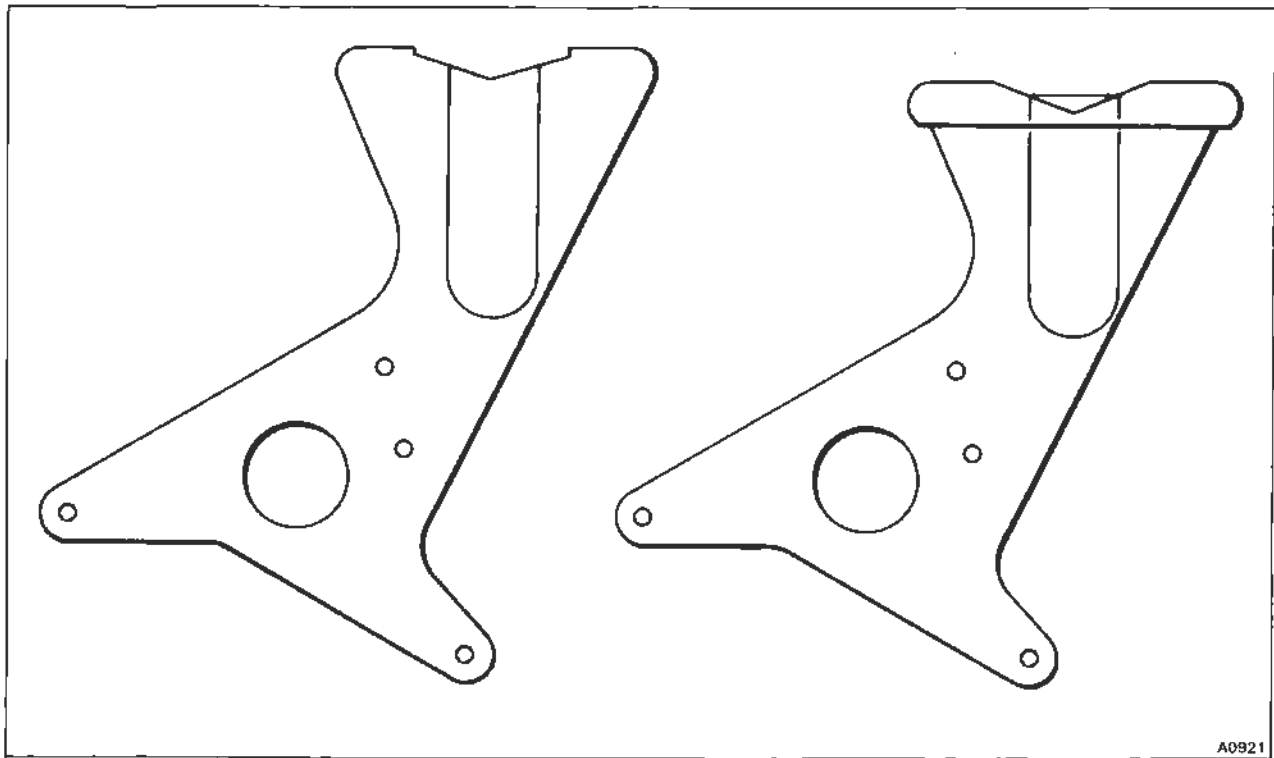

Fig. 1 Modified end support bracket
The modifications comprise of a shorter end support bracket and a shorter spacer for the front attachment point to the left-hand spring cover (see figs. 1 and 2).
- 4 Secure the new end support bracket (see fig. 1) to its lower attachment points on the inner wing.